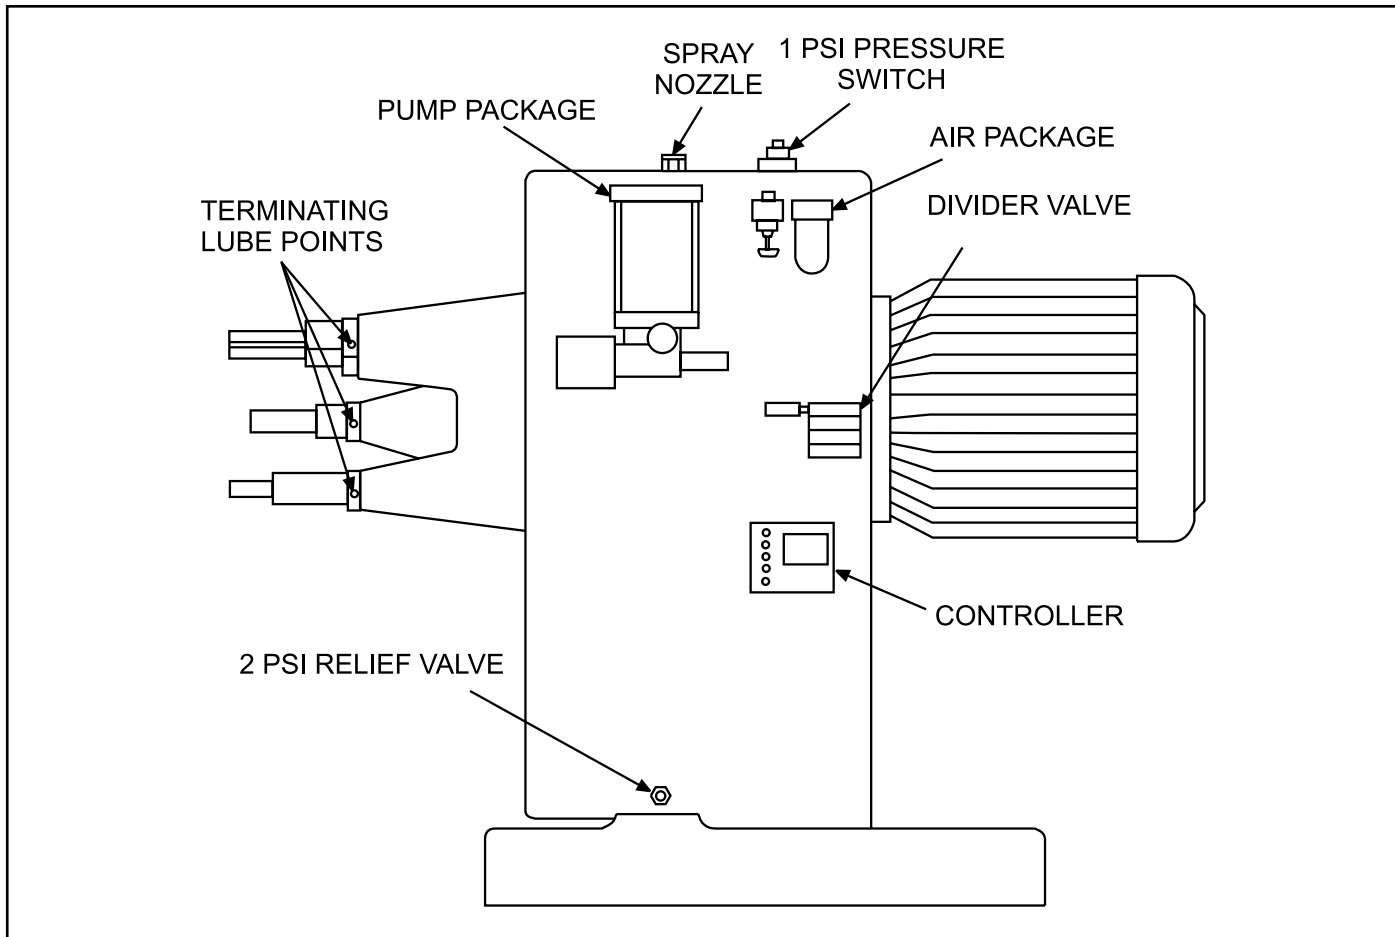

Figure 2-1. Spindl-Gard Installation
2.2.1 General: Paragraphs 2.2.2 through 2.2.8 discuss the installation and mounting of components of SG-1 systems. Paragraphs 2.2.9 and 2.2.10 discuss the final pneumatic and lube line connections which complete the installation process. The information provided in these paragraphs is designed to apply to all applications. For information on the specific system, refer to information obtained from the design process. For reference during the following paragraphs, Figure 2-1 shows a sample machining head with some of the SG-1 components mounted. Actual mounting position of most components will vary between systems.